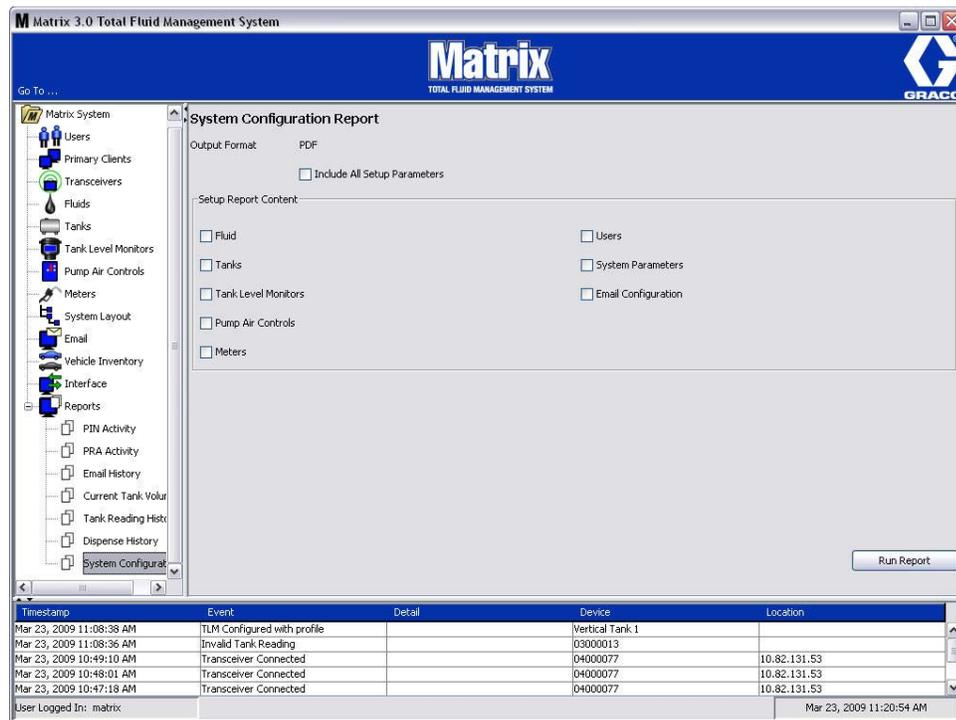

FIG. 224
- **System Configuration (Fig. 224)**